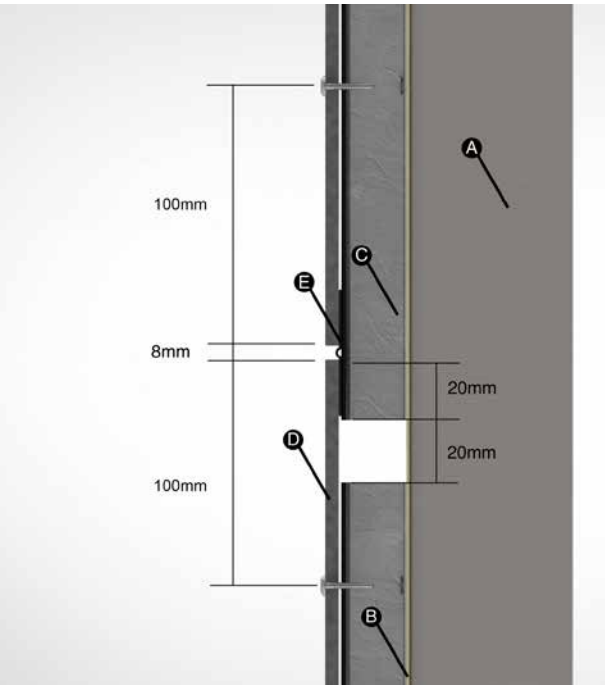

FIGURE 9.
- Ensure a minimum 20mm gap between the top hats (see Figure 9)